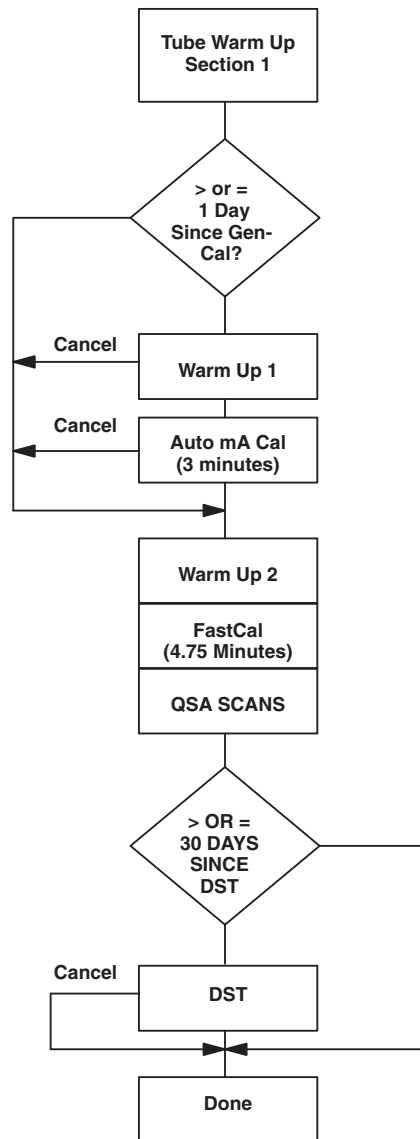

Figure 7-43 Tube Warmup and FastCal Flow Chart
- The original FastCal scans and processing, QSA scans and processing, DST scans and processing. See Figure 7-43.